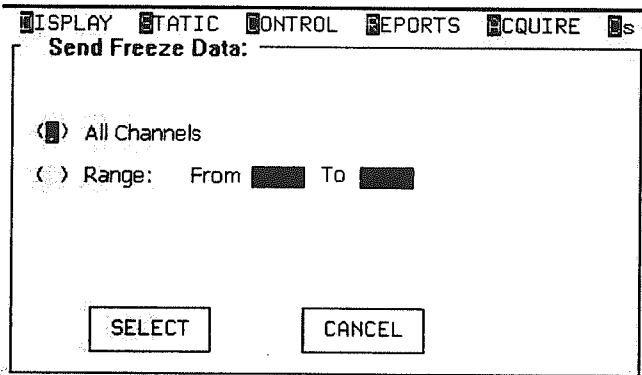

Figure 14-2 Dialog Box used to Initiate the Transfer of the Servo History Data
- Step 3)** Press **[RETURN]**. If the system is in a non-running mode (e.g. Pause, Hold, etc.), it will display the dialog box shown in **Figure 14-2**, prompting you to enter the range of servo channels you wish to transfer data from. The system transfers the history data in each servo controller (one channel at a time) to the host for recording to the hard disk.